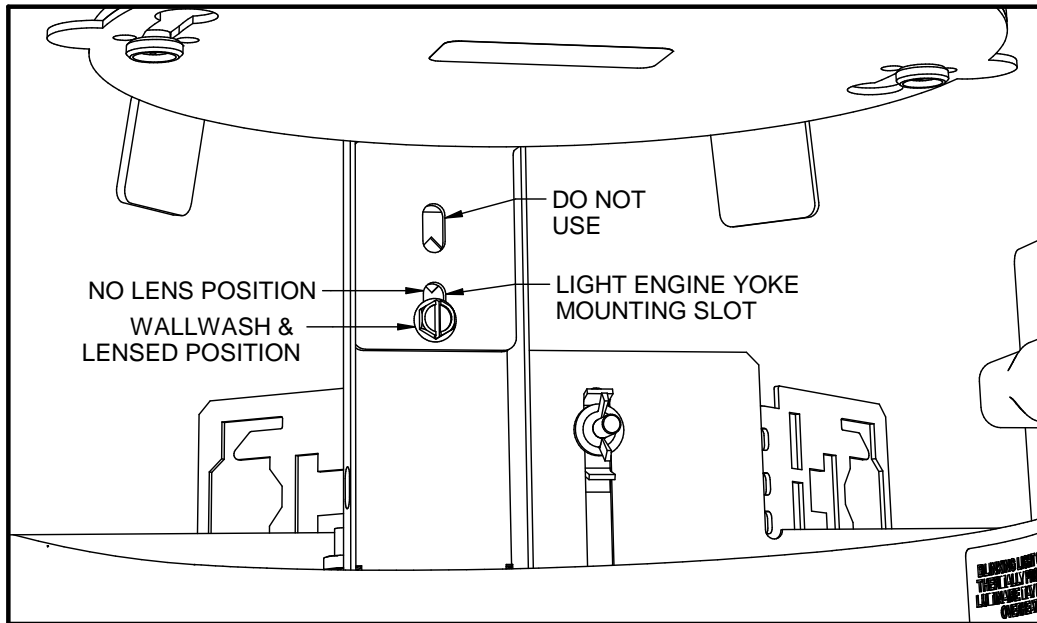

FIG. 6
- After positioning the light engine at the proper mounting location, reinstall the mounting screws in the lower slots on the light engine yoke bracket. Adjust the light engine as shown in **FIG. 6** below to position it for either the lensed version of the reflector, or the open (no lens) version of the reflector by using the vertical adjustment slot in the light engine yoke mounting bracket.